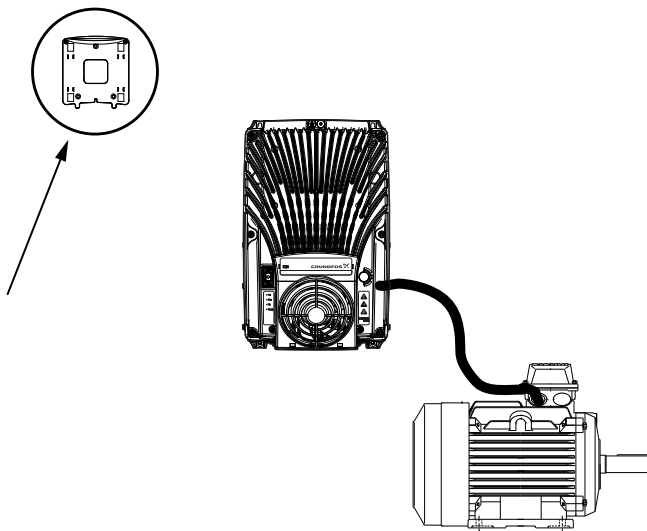
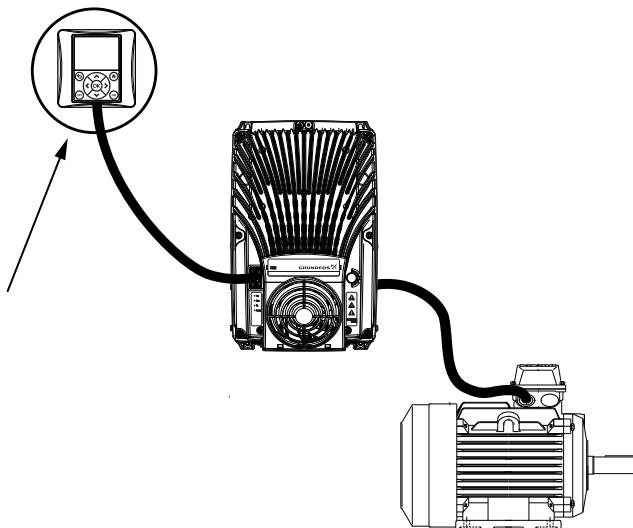

Fig. 53 Fix the keypad holder with three screws to the wall
Fig. 54 Keypad connected to the drive
3. Connect the keypad to the drive and plug the cable on the HMI connector as shown in the fig. 53 and in the fig. 54.